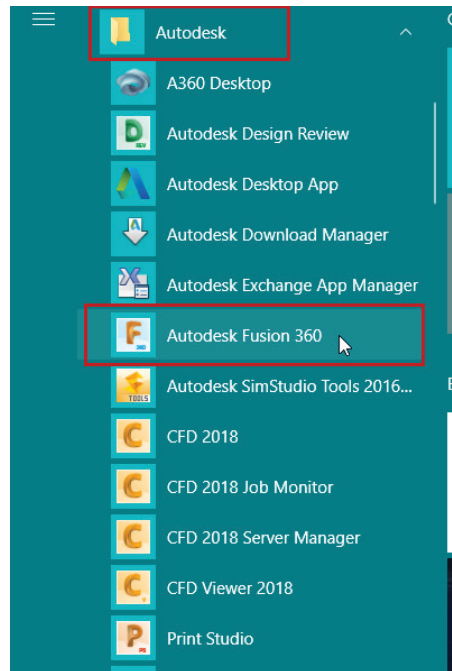

Figure-5. Start Menu
- To start **Autodesk Fusion 360** from **Start** menu, click on the **Start** button in the **Taskbar** at the bottom left corner, click on **All Programs** folder, and then on **Autodesk folder**. Select the Autodesk Fusion 360 icon; refer to Figure-5.